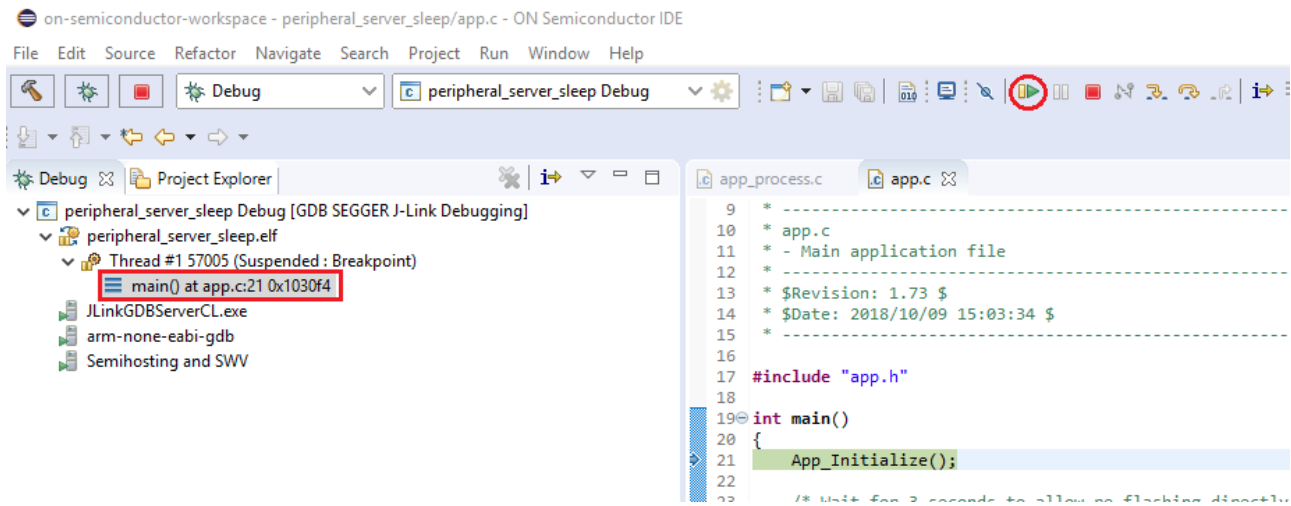

Figure 50. First Debug Session Perspective Before Starting Execution
5. Start the first debug session (which initiates target restart). Once the target is halted at `main`, resume the execution (see the figure "First Debug Session Perspective Before Starting Execution" (Figure 50)).